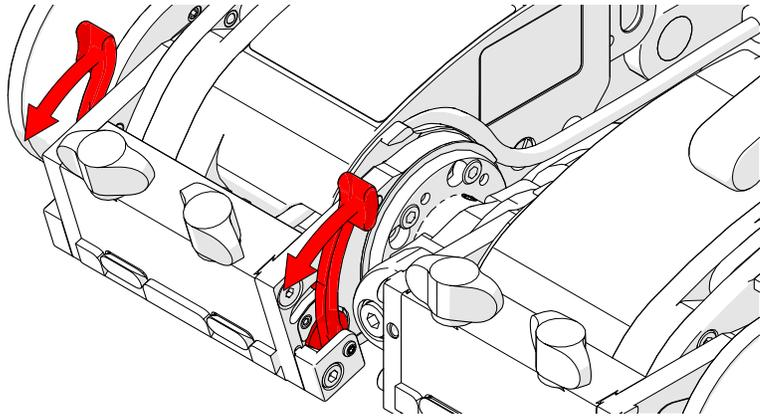

Fig. 13 - Release swivel mount adjustment levers
2. Release the swivel mount adjustment levers (Fig. 13).